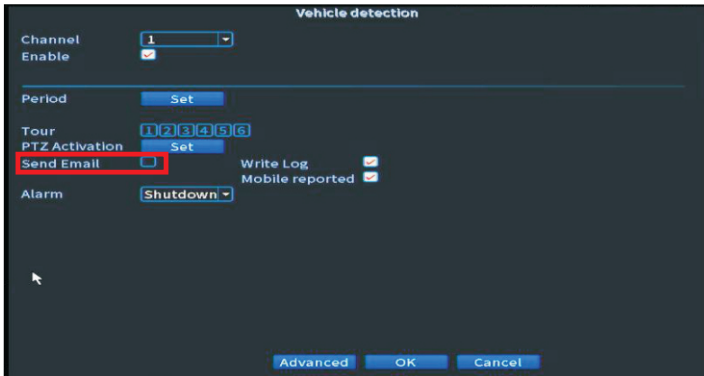

Figure 18. Enable Send Email check box.
3. Go to **Main Menu>Alarm>Vehicle Detection**. Enable the “Send Email” checkbox. See Figure 18